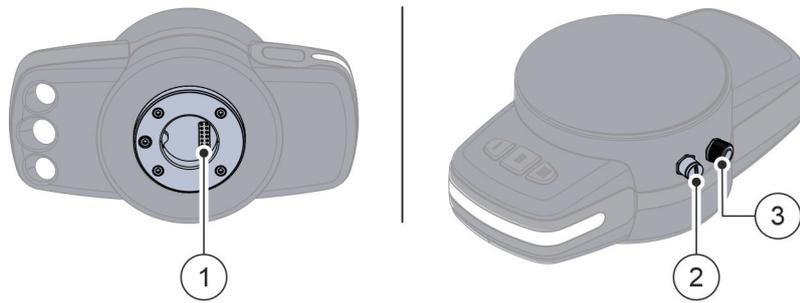

Fig. 12 Media flange with electrical interfaces
- ① Internal 12-pin electrical interface
- ② External 6-pin electrical interface
- ③ External 8-pin electrical interface
The media flange has three electrical interfaces **Fig. 12** for supplying and controlling the tools. Internal spring contacts on the connecting flange enable a wireless connection to the tools **Fig. 12/①**.
Two other interfaces in the form of M8 circular connectors are located on the sides of the media flange **Fig. 12/②** + **③**. The interfaces can be operated individually or, in the case of a multi-tool, simultaneously. The electrical interfaces (I/O interfaces) include digital inputs and outputs as well as analogue inputs. The following sections contain a detailed description of the interfaces.